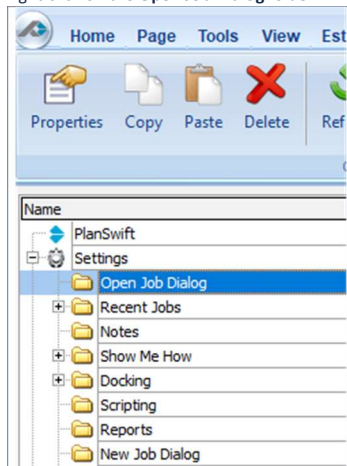

Figure 2
2. Right-click on the **Open Job Dialog** folder in Figure 2.